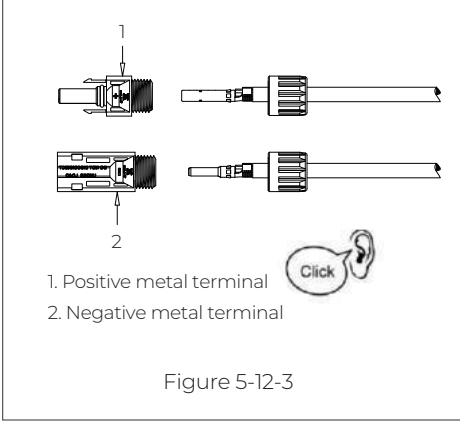

Figure 5-12-3
**Step 4:** Insert the crimped positive and negative power cables through the locking nut and into the corresponding plastic housing until you hear a click, which indicates that the metal core has been snapped into place, and then tighten the locking nut. See Figure 5-12-3 and 5-12-4.